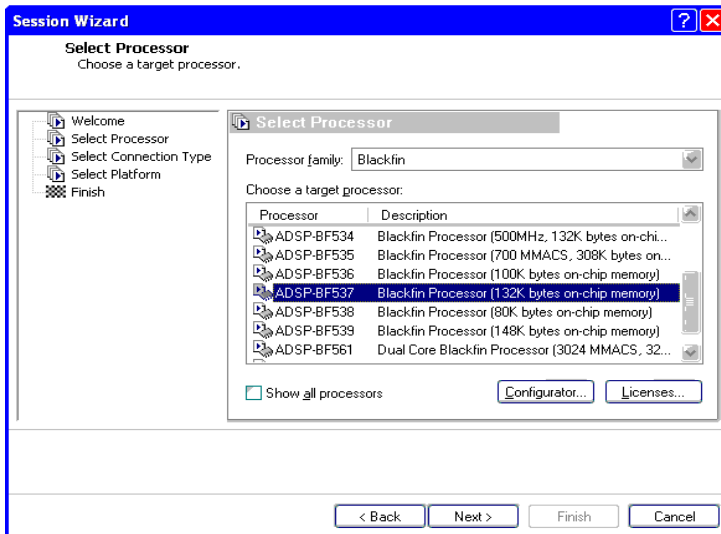

Figure 1-2. Session Wizard
1. From VisualDSP++' **Session** menu, select **New Session**, which launches the **Session Wizard** (Figure 1-2).